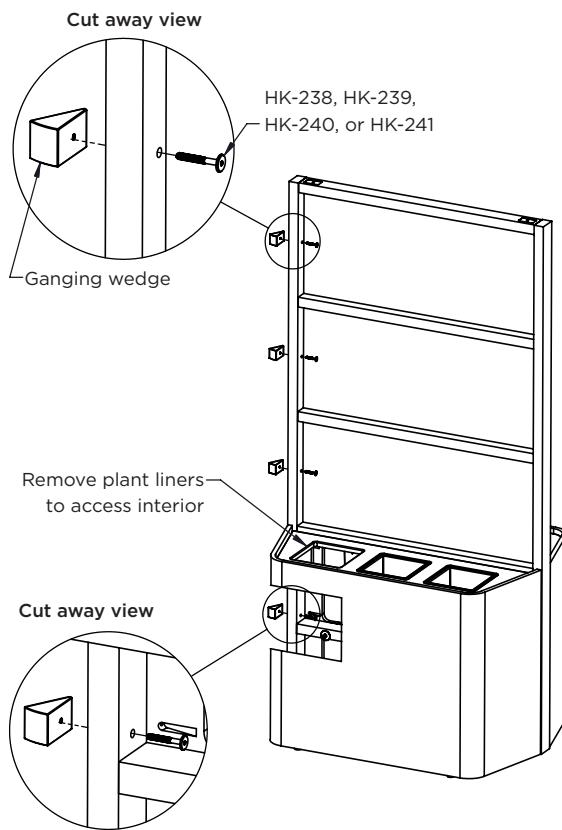

Figure 5B
2. For 90" h to 90" h planters, locate ganging hardware connector bolts (HK-238, HK-239, HK-240, or HK-241, color dependent). The infill type will determine which hardware kit is used. Reference table below to identify the appropriate length. Remove the plant liners on the ganging ends to access the interior of the case. Using the  $\frac{5}{32}$  hex key, secure the ganging wedges to the planter frame using the connector bolts. For 90" h to 90" h planters, there are four connection joints per side. (**Figure 5B**)